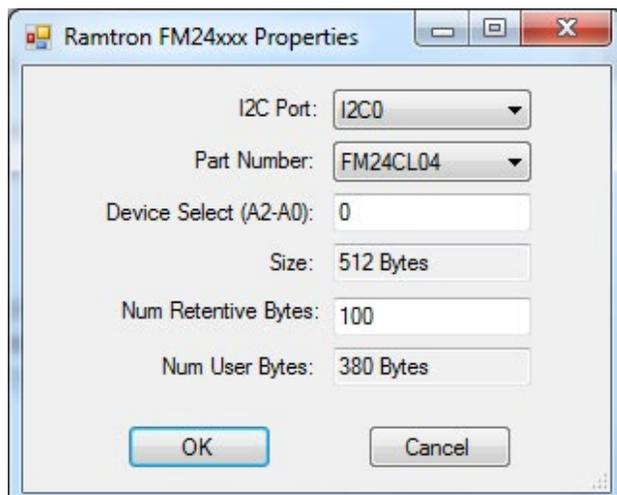

Figure 2.35 - Configure Retentive Memory
4. Enter the number of retentive bytes to use in the target in the *Num Retentive Bytes* box. The maximum available to use is 480 bytes (defaulted to 100 bytes). Refer to Figure 2-35. Any bytes not configured for retentive may be used as EEPROM memory bytes. (displayed as Num User Bytes). **Do not select a different Part Number. Verify it is configured for FM24CL04 only.**